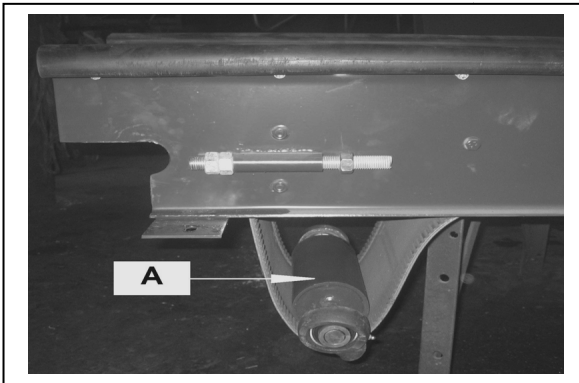

Fig 13
3. Fig 13 shows the result. Head roller (A) c/w two bearings. It is not required to remove the bearing from the head roller shaft.
4. Now remove the assembly (A) from the conveyor.